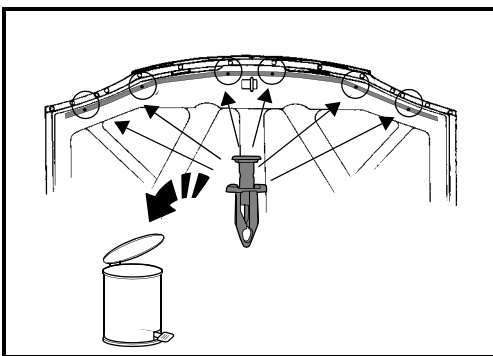

Figure 3. Remove rubber trim retaining plugs
3. Remove and discard the rubber trim retaining plugs, as per figure 3.